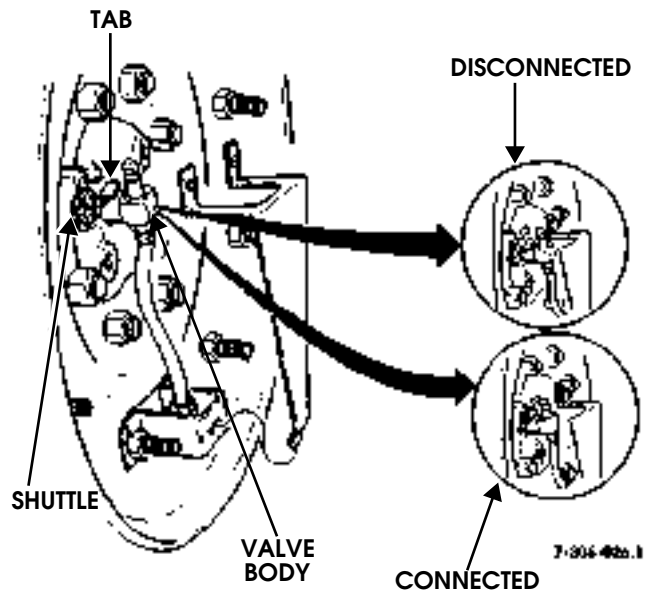

Figure 6-80: CTIS Quick-Disconnect Valve
2. Connect tires to CTIS by pushing in quick-disconnect valve body until valve tee section locks (clicks) into place. Perform this procedure on remaining three wheels (Figure 6-80).